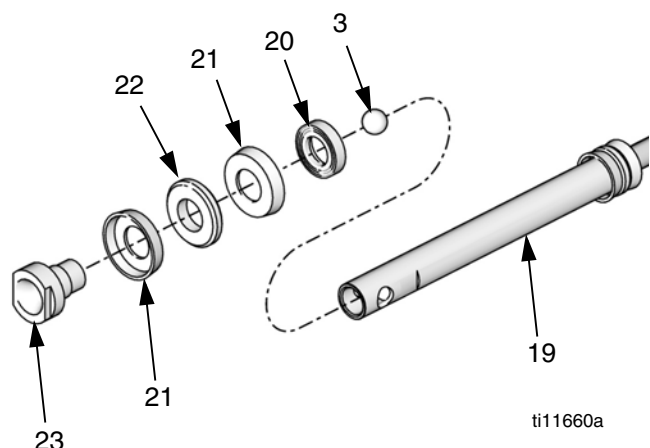

FIG. 16
3. Lubricate the piston seals (21) and bearing (22) with no. 2 lithium-based grease. Install one piston seal (21) with the lips facing down, bearing (22), and second piston seal (21) with lips facing up on the piston (23). Install the backup washer (20) with the grooves facing down. See FIG. 16 on page 17.
4. Place the ball (3) on top of the piston body (23) and screw the piston body and the fluid piston rod (19) together. Torque to 30-35 ft-lb (41-48 N•m). Screw the piston valve housing (29) onto the lower connecting rod (19). See FIG. 16 on page 17.
5. Install the seal (51), with the lips facing down, in the displacement pump frame (36), then install bearing (31).